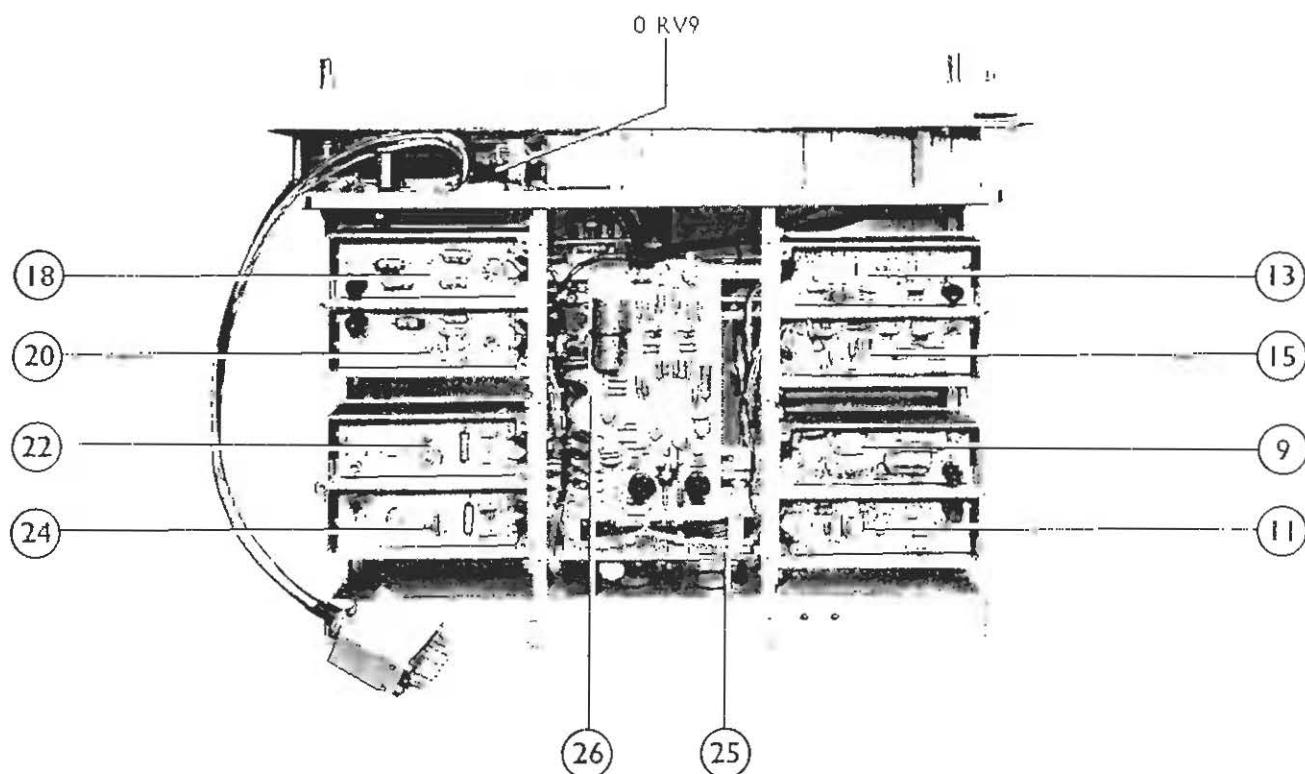

Fig. 4.3 R.F. unit with covers removed top
- (c) With the r.f. unit right way up, extract the two 6 BA screws that secure the support brackets to the top edge of board (25)
- (d) Withdraw the three 6 BA screws that secure the brackets on the bottom edge of board (25) to the main drive shaft rear support plate.
Oscillators and output filters; boards (9) to (24) : These boards are contained, in pairs, in cast boxes bolted on either side of the r.f. unit; oscillators on the left and output filters on the right. See Figs. 4.3 and 4.4. Access to the component side of each board may be obtained by removing the cover plate (secured by three 4 BA screws) on the outside face of the appropriate box. To get at the print side of a board remove the 6 BA screw and two 8 BA nuts that hold the board in position and swing it up and clear of the box.